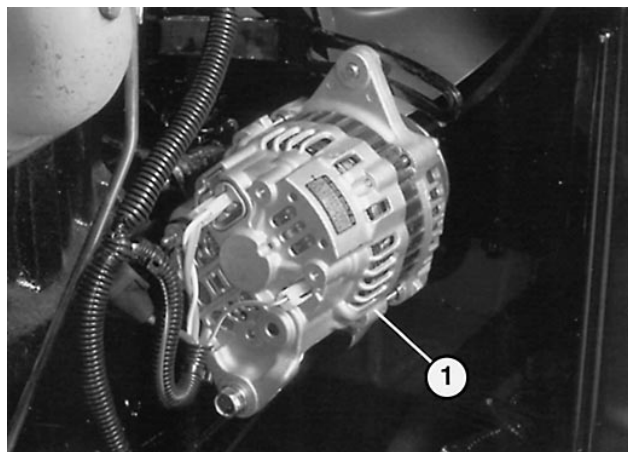

Figure 42
- C. Loosen the bolts (3) securing the alternator to the plate and mounting bracket (Fig. 42). Rotate the alternator away from the engine to increase tension and tighten the bolts. Check belt tension after adjustment and re-adjust, if necessary.